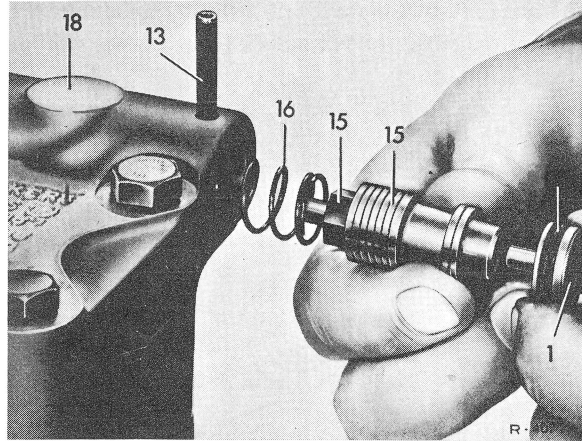

Fig. 11
15 Insert compression spring (16) into bore of pump housing (18). Rinse volume control valve once again, immerse in transmission oil and introduce into housing bore with the pressure relief valve facing inwards (Fig. 11).
16 Fit new O-ring (14) on closing cover (1). Force closing cover with bolt inwards into housing bore and secure by knocking-in locking pin (13) (Fig. 11).